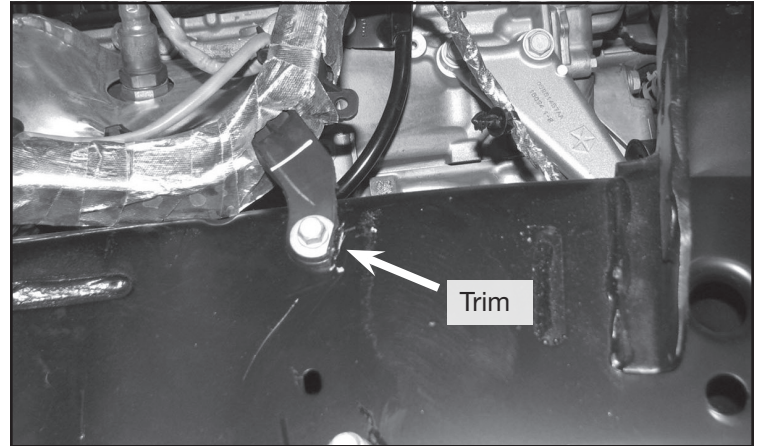

FIGURE 27 - STEP 19
19. Repeat Steps 6-17 on the passenger side. **NOTE: The wire harness plastic bracket mounted to the frame will need to be trimmed to allow the fitment of the passenger coilover tower. SEE FIGURE 27**